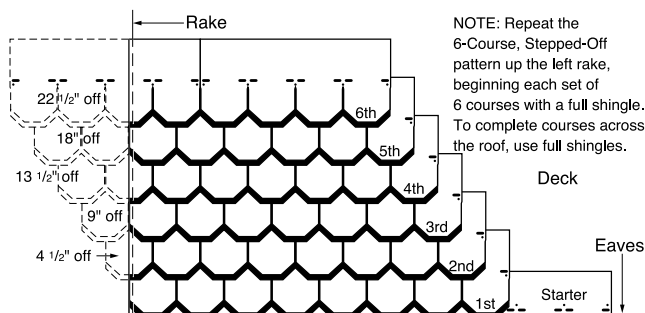

Figure 17-15: Four-and One-Half Off, Six Up (Carriage House).
2. Locate fasteners in starter strip about 1 1/2" up from the bottom edge, so they are centered under the first-course tabs. Continue with full 10" by 36" lengths along the eaves (Figure 17-15).